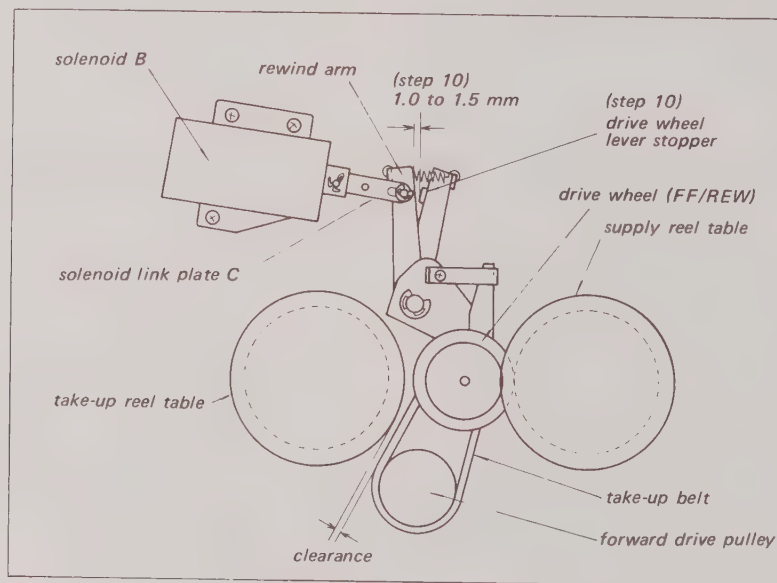

Fig. 5-40. Rewind solenoid adjustment
10. Position the solenoid so that the clearance between the Rewind Arm and the Stopper on the Drive Wheel lever is 1.0 to 1.5 mm. See Fig. 5-40.